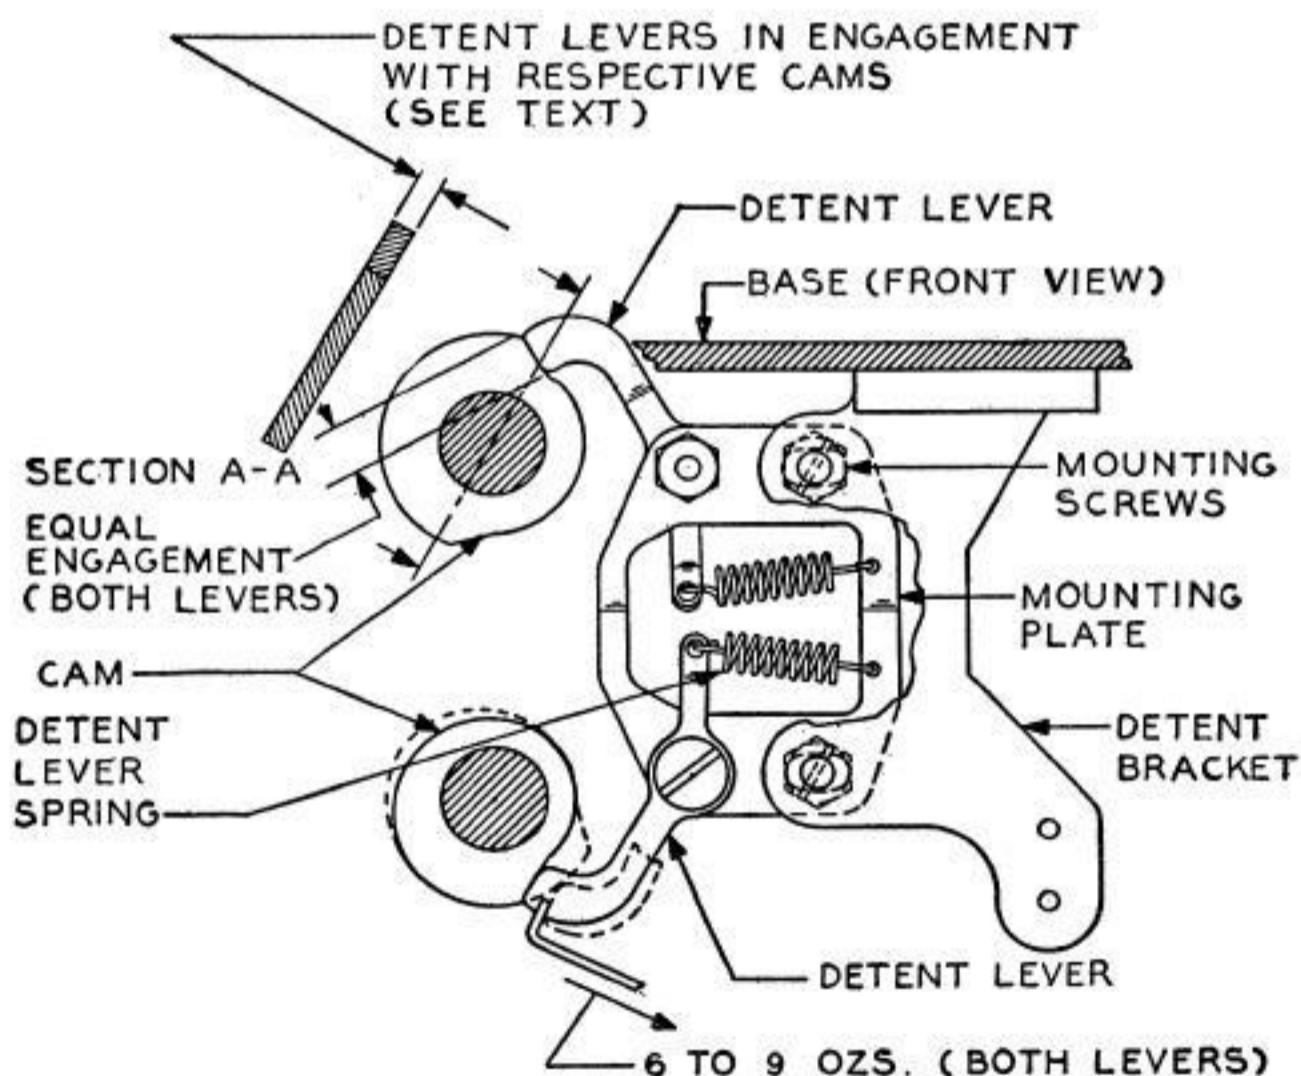

Fig. 73
(1) To adjust, position the detent lever plate on its bracket by means of the elongated mounting holes. Make certain that both spring tensions are approximately equal by extending the springs an equal amount. Gauge by eye. If the detent bracket has been repositioned for alignment of the detent levers with their cams, the tape-out contact adjustment must be rechecked and, if necessary, remade.
2.144 **Detent-Lever Spring:** With the detent levers resting on the high part of their cam, hook a scale over the cam end of the lever and pull at right angles to the levers. It should require a pull as indicated in Fig. 73 to start the levers moving away from their cams. **Fig. 73**